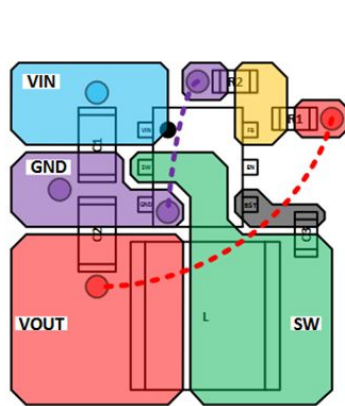
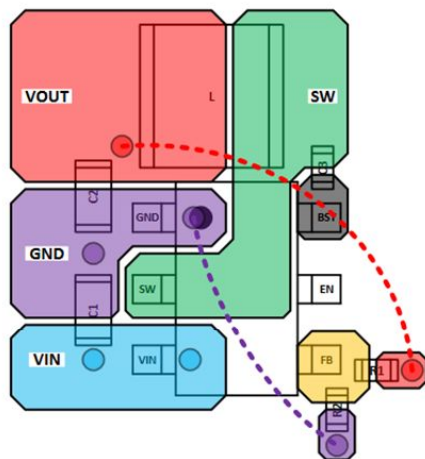

Figure 42. Recommended PCB Layout, SOT563 (Standard)
Figure 43. Recommended PCB Layout, TSOT26 (Standard)
9. See Figure 42 and Figure 43 for more details.